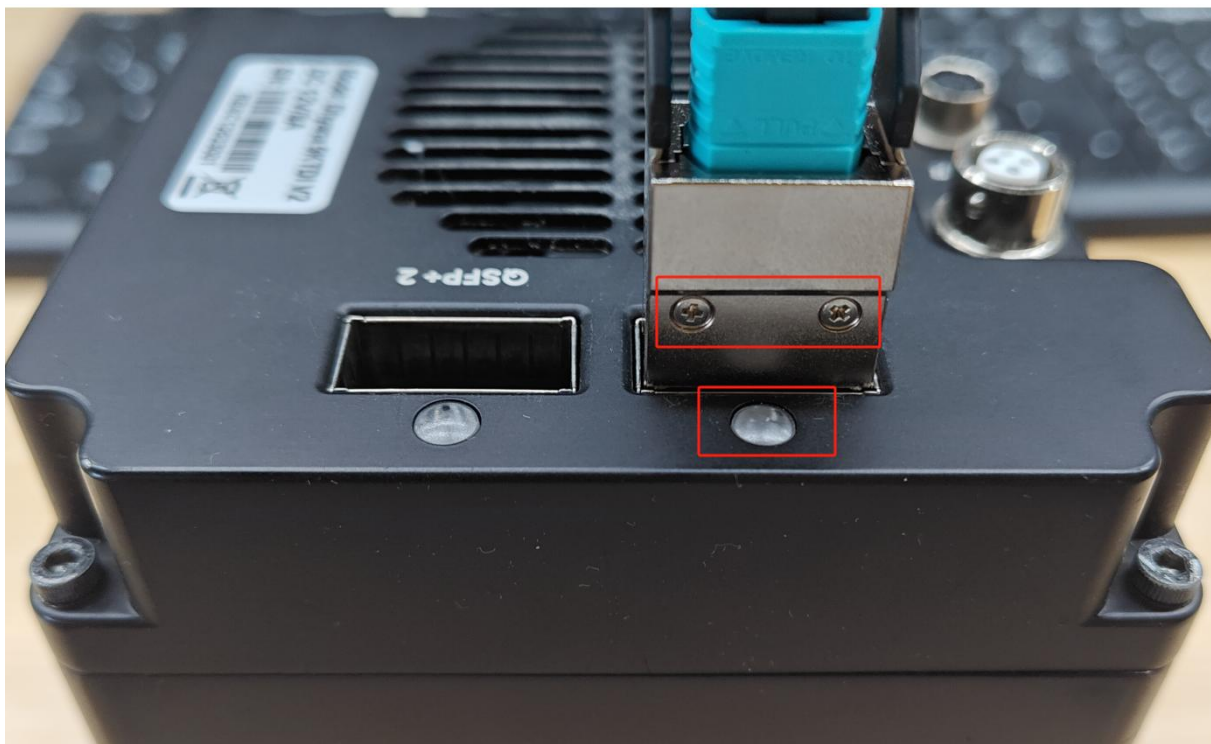

Figure 3-7 Connect the QSFP+ optical module to the camera's QSFP+ 1
- 2) Insert the optical module into the QSFP+ port 1 of the camera, as shown in Figure 3-7. You should hear a "click" sound when it is fully inserted. The camera indicator light should be on the same side as the optical module's screw, with the screw center approximately 7mm from the camera panel.